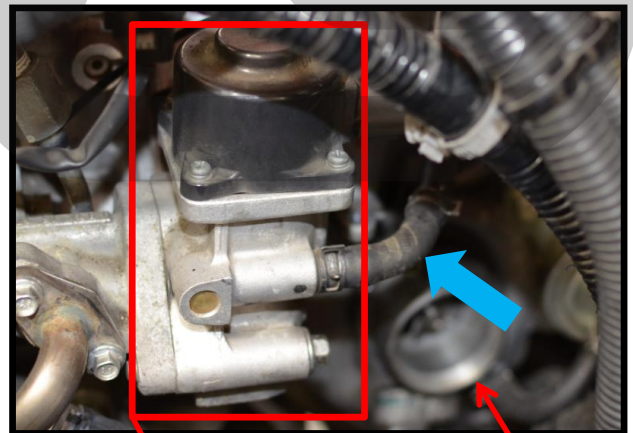
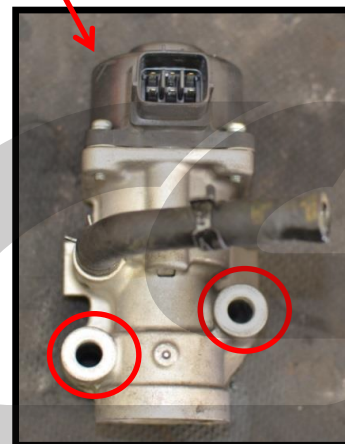

Figure 8d
Figure 8e
- e) Release the spring clamp on the upper coolant line that routes from the EGR valve to the turbocharger. Then, pull the line off the turbocharger. Coolant line showed with the blue arrow in Figure 8d.
- f) Remove the two 10mm flange bolts holding the EGR valve. The mounted EGR valve is shown in Figure 8d and the bolt locations are shown in Figure 8e circled in red.